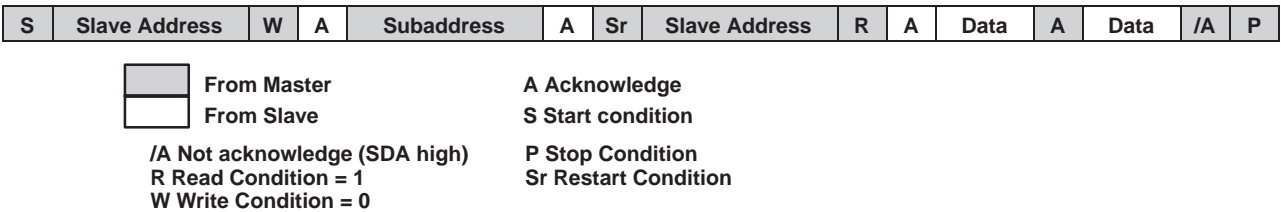

Figure 13. I²C Read Cycle
The transmitting device must not drive the SDA signal during the acknowledge cycle so that the receiving device may drive the SDA signal low. The master indicates a *not acknowledge* condition (/A) by keeping the SDA signal high just before it asserts the stop condition (P). This sequence terminates a read cycle as shown in Figure 13.